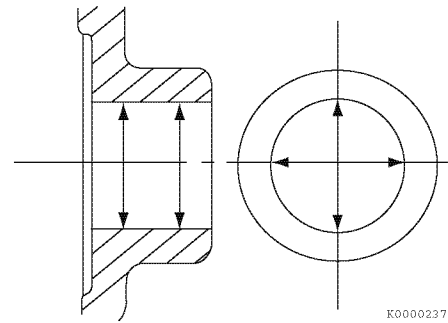

Figure 6-67
6. Measure the diameter of the wrist pin bore on both sides of the piston (Figure 6-67). See Piston on page 6-9 for specifications. Record the measurements.